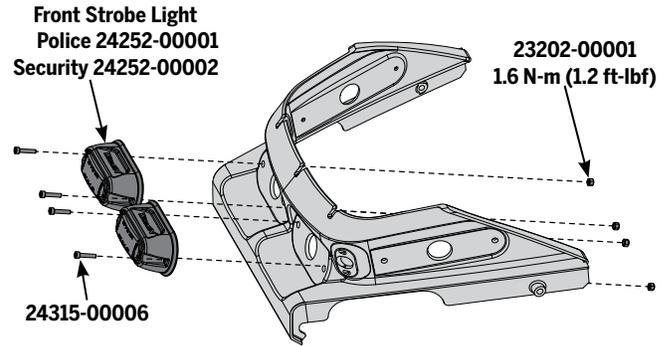

Figure 50: Front Strobe Lights
4. Using a 3 mm hex wrench and a 7 mm socket wrench, remove the two fasteners securing the light. See **Figure 50**.
4. Slide the plastic sleeves onto the fasteners, then install the fasteners and lock nuts (**Figure 50**).